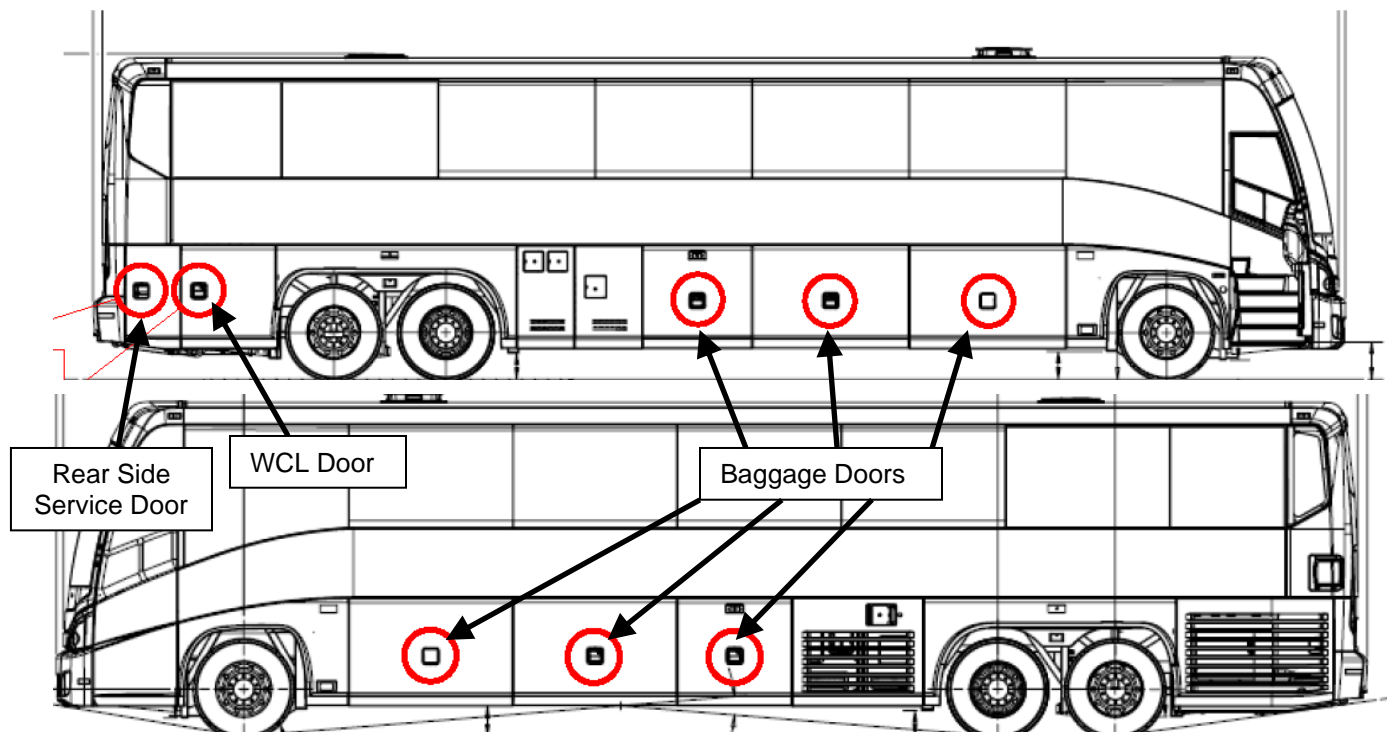

Figure 1: Lock Handle Locations
3. Locate the six baggage doors, the wheelchair lift door, and the rear side service door as shown in Figure 1.
4. Remove and discard all the eight lock handles shown in Figure 1. Retain the lock cylinders for reassembly.